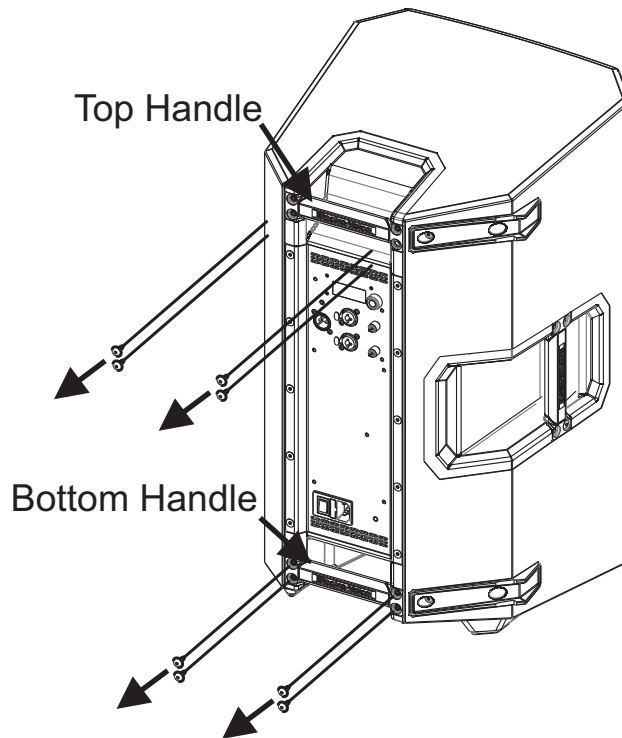

Figure 2.1: Remove Handles
1. Using a screwdriver, remove **the four (4) screws** holding the top handle to the chassis (see Figure 2.1).
2. Remove **the four (4) screws** holding the bottom handle to the chassis (see Figure 2.1).